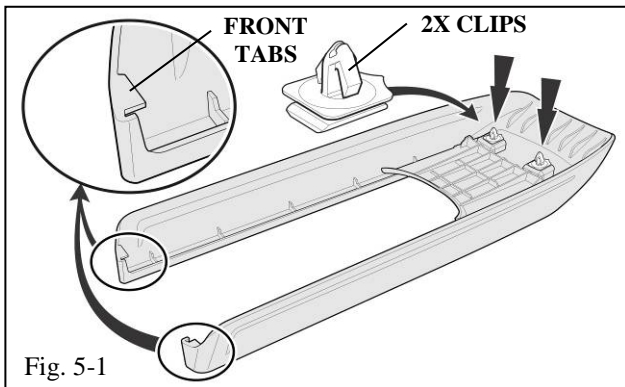

Fig. 5-1
- (a) Install 2x plastic retainer clips into the 'dog house' features on the underside of the armrest base. Note the clip orientation (Fig 5-1).